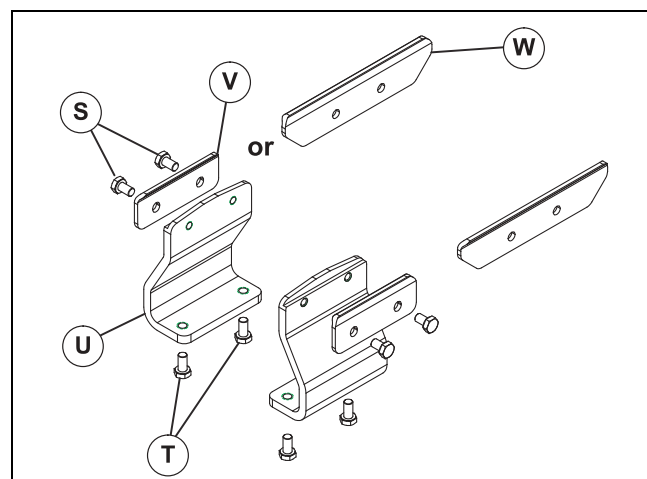
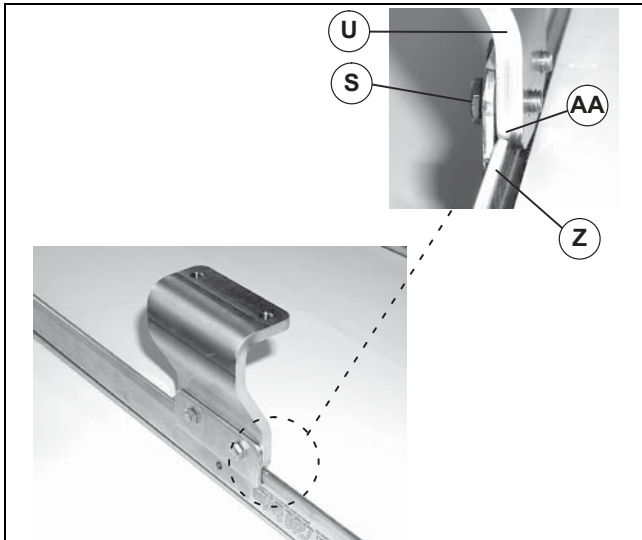

Figure 9
Figure 10
Conveyor may be mounted using mounting brackets as shown in Figure 9 and Figure 10 or directly to support stands. For direct support stand mounting, see stand manual.
1. Typical mounting bracket components (Figure 9).
2. Attach clamp plate (Figure 9, item V or W) to stand/conveyor ear mount bracket (U) with two screws (S). Do not tighten screws.
3. Attach stand/conveyor ear mount bracket (Figure 10, item U) to bottom of conveyor (Z). Make sure notch (AA) on bracket straddles conveyor edge as shown. Snug-up two screws (S).